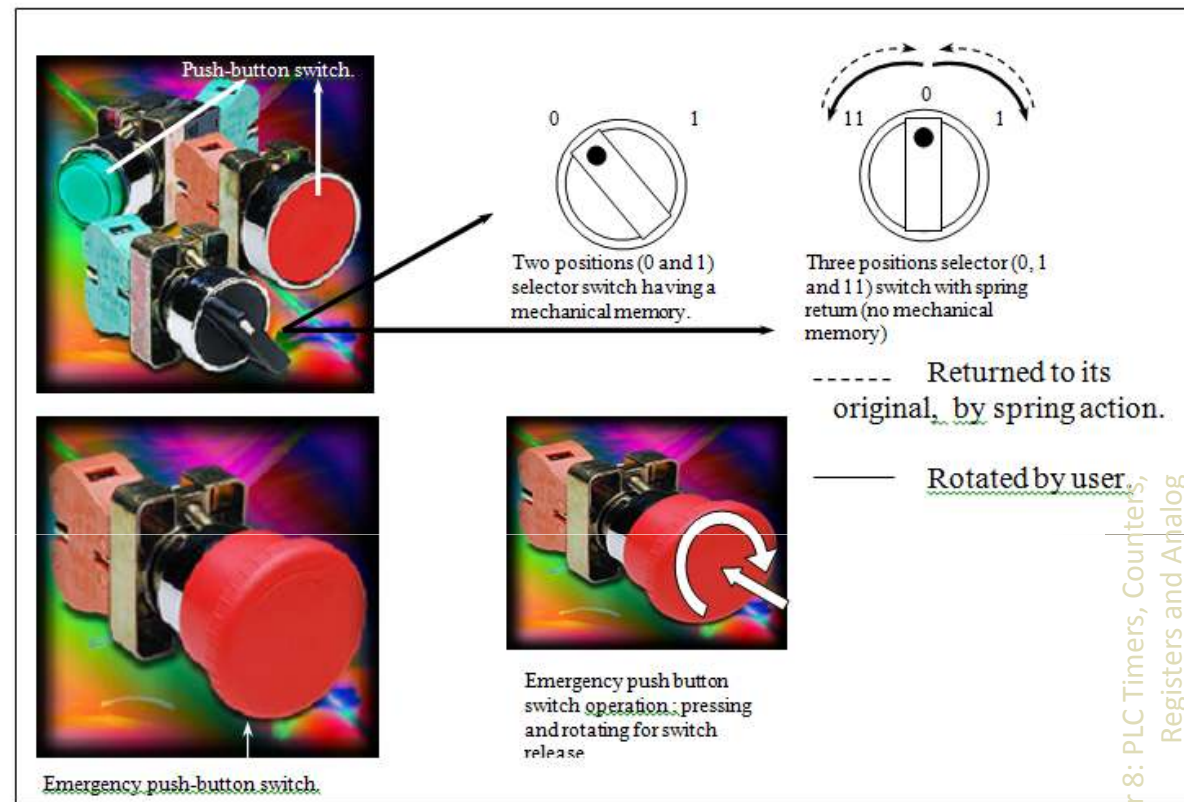

Fig. 8.13 Different types of user interface push button, selector and emergency switches.
- Fig. 8.13 shows examples of different types of user interface switches used with Jog control cycle